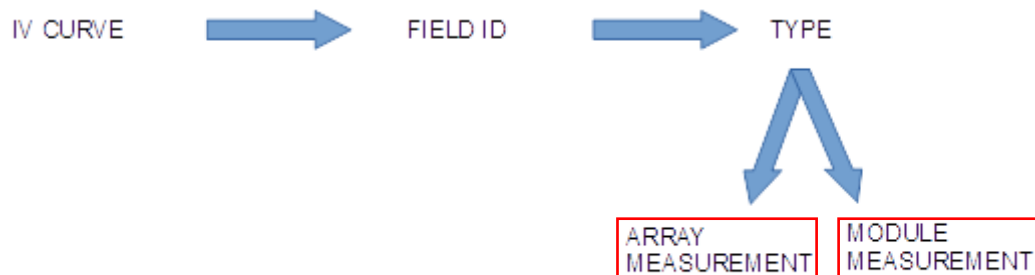

Figure 14.7.3-21 Selection of I-V curve measurement
- TEST carried out on a module (see Figures 14.7.3-21):